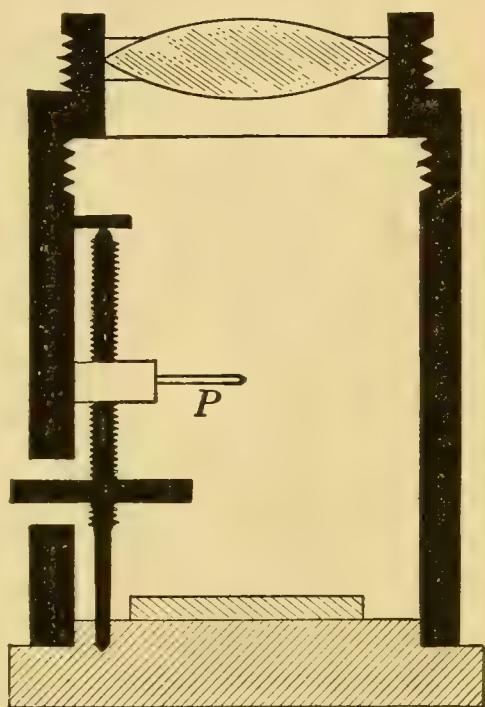
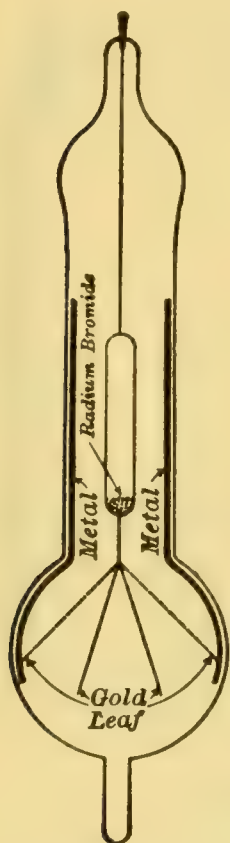

FIGURE 721. — SPINTHAROSCOPE, SECTIONAL.
FIGURE 722.—The gold leaves diverge with the charge received from the radium and discharge when they touch the metal plates.
496. Energy in Radioactivity. — From what we have seen, we might expect that radioactive substances would constantly give off energy, and this proves to be the case. If a bit of radium is placed beside the bulb of a thermometer, it is found that the thermometer reading shows a little higher temperature than that of the surrounding atmosphere. The energy emitted by radium placed in ice would melt in less than an hour a weight of ice equal to that of the radium. Sir William Crookes invented the *spintharoscope*, to make visible the process of radioactivity. At one end of a small metal tube (Figure 721) is placed a screen covered with zinc sulphide. A short distance above this a minute particle of a radium compound is placed on a projecting wire (P). The other end of the tube contains a lens. When you look through the lens in a dark room, a tiny spark or flash of light is seen whenever an α particle strikes the screen. In the *radium clock* (Figure 722), a small quantity of radium bromide is placed in a metal tube, from which are suspended two gold leaves. The inner side of the glass tube in which the radium is suspended has two metal plates. As the gold leaves become